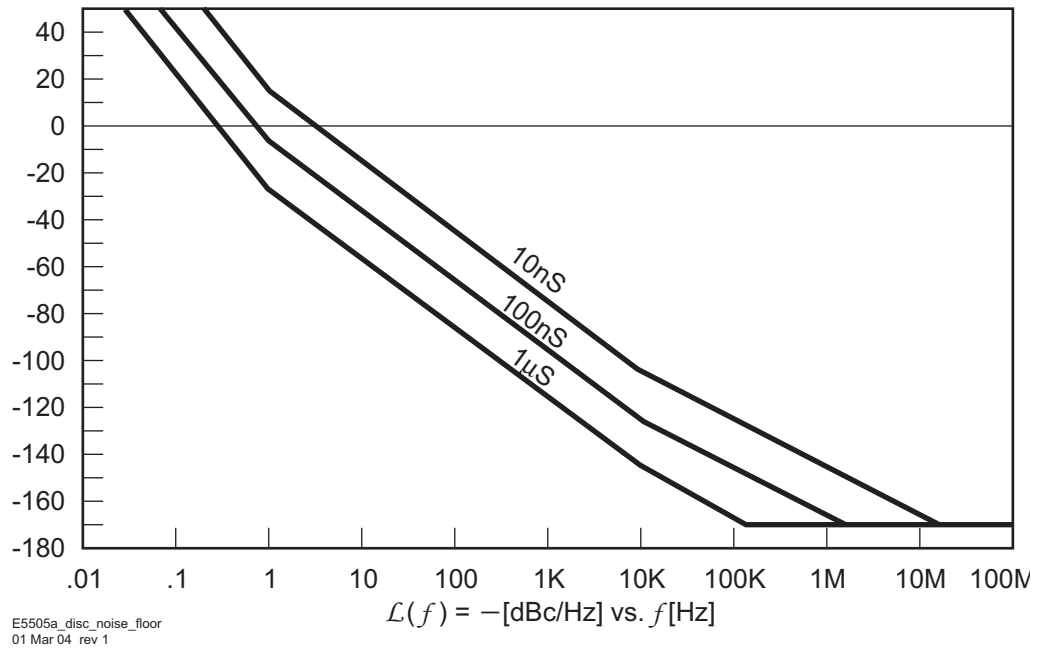

Figure 181 Discriminator noise floor as a function of delay time
- 1 Determine the delay necessary to provide a discriminator noise floor that is below the expected noise level of the DUT. Figure 181 on page 252 shows the noise floor of the discriminator for given delay times (τ).